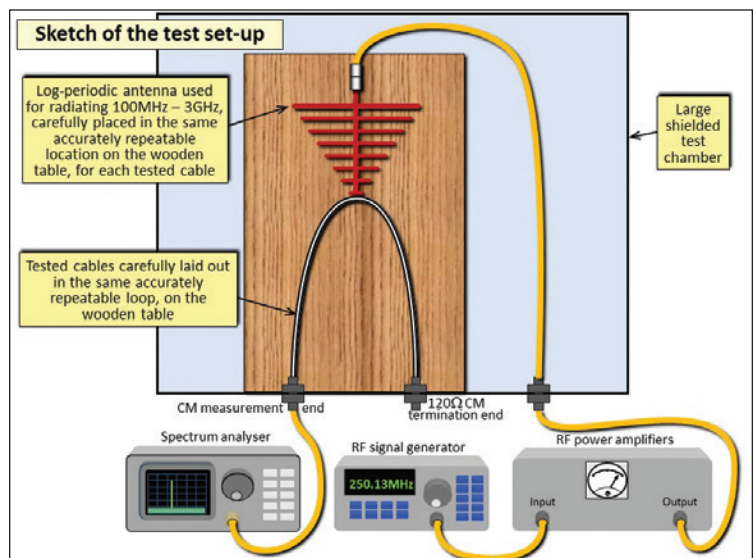

Figure 7: Sketch of the test set-up
- Cable 4: Same as Cable 3, but with the internal TP cable's braid now 360° soldered to the overbraid at the backshell at the CM measured end, but still pigtailed at the 120Ω end (see Figure 7).
- Cable 10: Same as Cable 6, but with the internal TP cable's braid 360° soldered to both overbraids at the backshell at the CM measured end while still pigtailed at the 120Ω end (see Figure 7).
There are many ways of testing the SE of cable assemblies (i.e., cables plus their connectors), and each should be expected to give different results even with identical cable assemblies. So, I chose a test method that best represented the situation I was most interested in and that was also the easiest and quickest to do with the facilities and resources I had available at the time (see Figures 7, 8, and 9).
1. Frequency-related variations in the RF power output from each RF amplifier (see Figure 7);